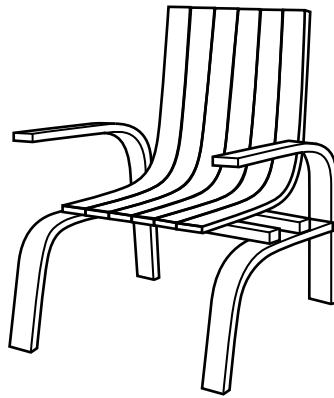

Fig. 6
- 9 Fig. 6 shows a chair made from wood.